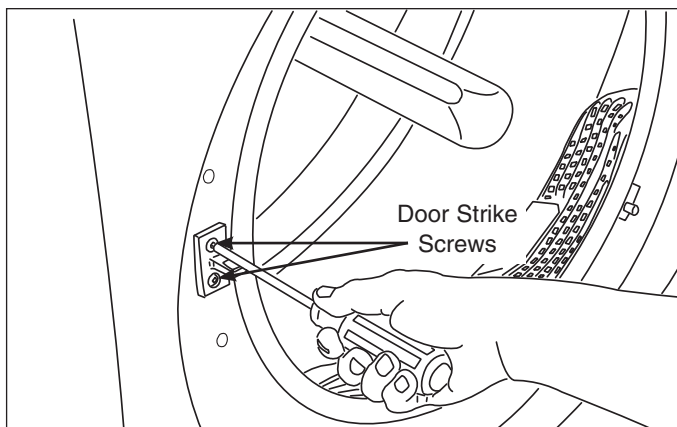

Figure 4-9.
2. Using a #2 square bit screwdriver, extract the two screws securing the door strike to the front panel. (See Figure 4-9)